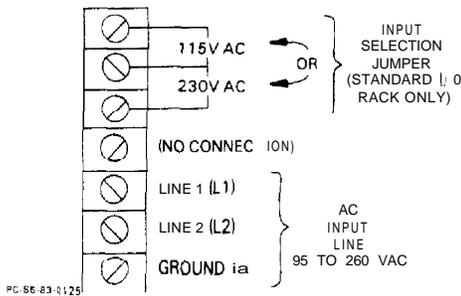

Figure 3. I/O Rack Front-Panel Terminal Block
2. Refer to Figure 3. Connect a power cord capable of carrying the current drawn by the power supply to the terminal block on the front panel. The ground terminal on the terminal block must be connected to an adequate earth ground. Ensure that the input voltage jumper is positioned correctly and secured (Standard I/O rack only). After the connections have been made, mount the protective cover over the terminal block with the screws provided; make sure that the wires are routed through the opening in the cover.